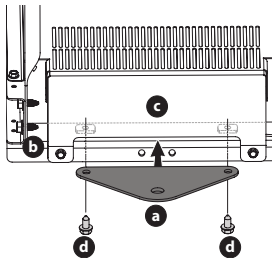
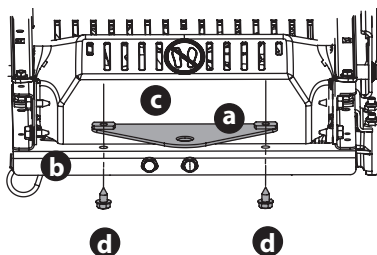

Figure 15
Figure 16
1. Slide the hitch plate (a) in between the frame (b) and the rear cover (c) on your riding mower (Figure 15 for Hydro Gear transmission and Figure 16 for Tuff Torq Transmission.)
2. When the holes in the hitch plate (a) and the frame (b) are aligned, install the two hex screws (d) up through the frame (b) and into the hitch plate (a) (Figure 15).
3. Securely tighten the hex screws (d) (Figure 15).